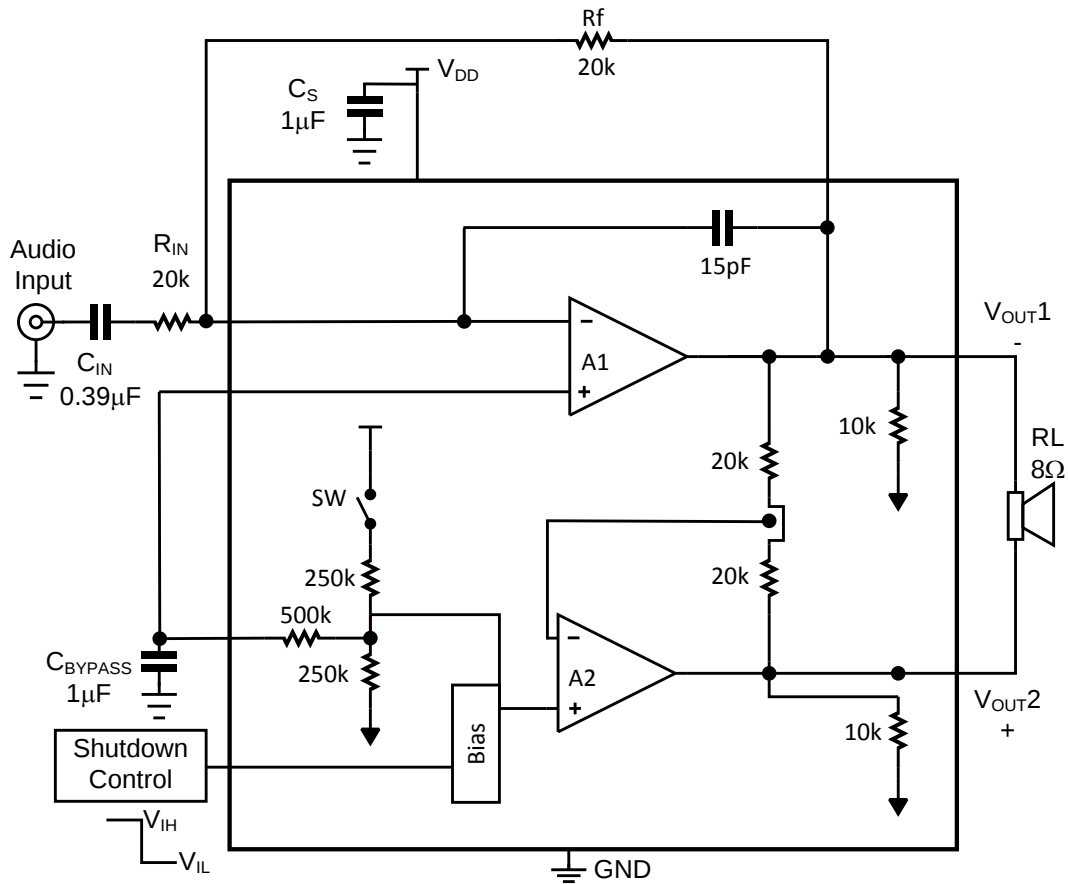

Figure 7. Typical Audio Amplifier Application Circuit
The following specifications apply for the circuit shown in Figure 7 unless otherwise specified. Limits apply for $T_A = 25^\circ C$.
- (1) All voltages are measured with respect to the ground pin, unless otherwise specified.
- (2) *Absolute Maximum Ratings* indicate limits beyond which damage to the device may occur. *Operating Ratings* indicate conditions for which the device is functional, but do not ensure specific performance limits. *Electrical Characteristics* state DC and AC electrical specifications under particular test conditions which ensure specific performance limits. This assumes that the device is within the Operating Ratings. Specifications are not ensured for parameters where no limit is given, however, the typical value is a good indication of device performance.
- (3) For DSBGA only, shutdown current is measured in a Normal Room Environment. Exposure to direct sunlight will increase I_{SD} by a maximum of 2μA.
- (4) Typicals are measured at 25°C and represent the parametric norm.
- (5) Limits are specified to TI's AOQL (Average Outgoing Quality Level).
- (6) Datasheet min/max specification limits are specified by design, test, or statistical analysis.
- (7) ROUT is measured from each of the output pins to ground. This value represents the parallel combination of the 10k ohm output resistors and the two 20k ohm resistors.
- (8) PSRR is a function of system gain. Specifications apply to the circuit in Figure 7 where $A_V = 2$. Higher system gains will reduce PSRR value by the amount of gain increase. A system gain of 10 represents a gain increase of 14dB. PSRR will be reduced by 14dB and applies to all operating voltages.
The following specifications apply for the circuit shown in Figure 7 unless otherwise specified. Limits apply for $T_A = 25^\circ\text{C}$.
(7) R_{OUT} is measured from each of the output pins to ground. This value represents the parallel combination of the 10k ohm output resistors and the two 20k ohm resistors.
(8) PSRR is a function of system gain. Specifications apply to the circuit in Figure 7 where $A_V = 2$. Higher system gains will reduce PSRR value by the amount of gain increase. A system gain of 10 represents a gain increase of 14dB. PSRR will be reduced by 14dB and applies to all operating voltages.